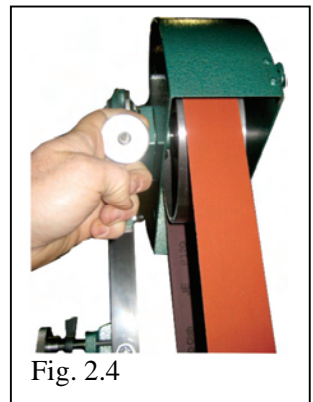

Fig. 2.4
4. Insure that the abrasive belt is tensioned properly. To do this raise the tensioning handle (P/N 937G). You will hear mechanical clicks as the tensioning ratchet pawl (737F) moves. Generally, the belt will be adequately tensioned when you hear three to eight clicks. To reduce or release the belt tension slightly raise the tensioning handle (P/N 737A) then press the button (P/N 737B) in the center of the tensioning handle. Move the tensioning handle down slightly to reduce belt tension or all the way down to release belt tension. See Figure 2.4